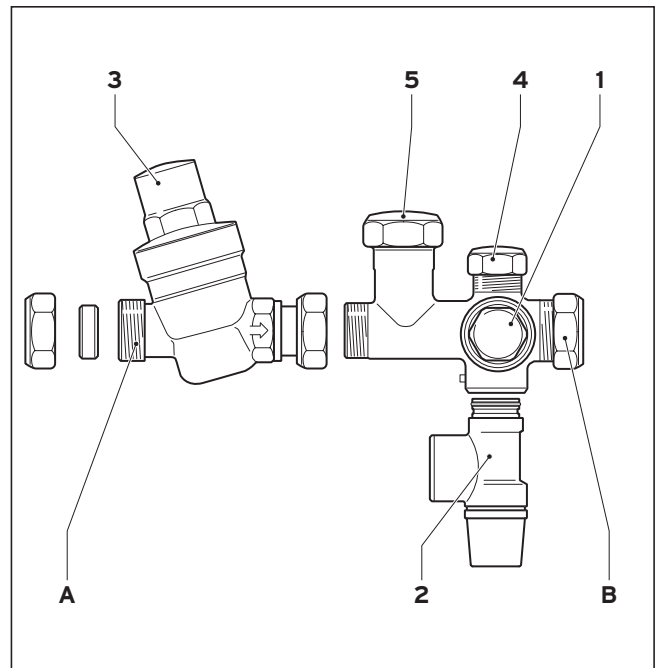

Fig. 8
- Connect the two cold water control valves together as shown in fig. 8, ensuring that the orientation of the valves, when installed in the cold mains supply, allows the 15 mm outlet of the expansion relief valve to be connected to the tundish.
To ensure optimum performance from the uniSTOR, and particularly in installations where the balanced pressure cold water outlet (5, fig. 8) is to be used, the pipework provided from the building mains stop valve to the uniSTOR cylinder should be minimum 22 mm copper tube.
- Install the assembled cold water control valves (fig. 8) in the cold mains supply at a convenient position adjacent to the uniSTOR cylinder, ensuring adequate space exists for service access and allow for connection of the discharge pipe from expansion relief valve.
- i. Screwing the vessel directly into the control assembly at the purpose provided connection (1, fig. 8) or;
- ii. Connecting the vessel to the control assembly via copper pipe or a suitable approved flexible connection hose (4, fig. 8), ensuring that the vessel is adequately supported.
- Connect the balanced pressure cold water supply (if required) to the cold water control pack (see fig. 8).
**In areas where the mains water pressure is high (4 bar or above) the cold water supply to a bath or shower mixer valve can be taken from the balanced pressure cold water outlet (5, fig. 8) of the cold water controls. This will ensure that both hot and cold supplies to the mixer valve are at approximately the same pressure. The cold water supply for all other terminal fittings should be feed into the cold water supply pipework to the uniSTOR upstream of the cold water controls.**